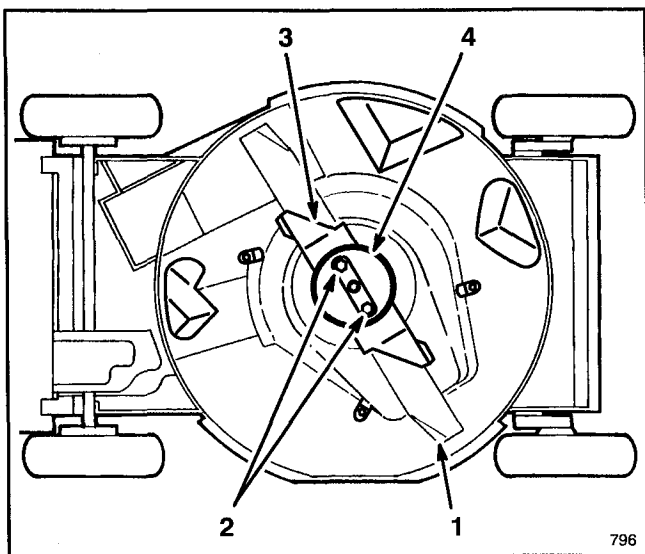

Figure 25
3. Tip mower on its left side (Fig. 25).
5. **REMOVING BLADE**—Grasp end of blade using a rag or thickly padded glove. Remove blade nuts, anti-scalp cup, accelerator, and blade (Fig. 25).